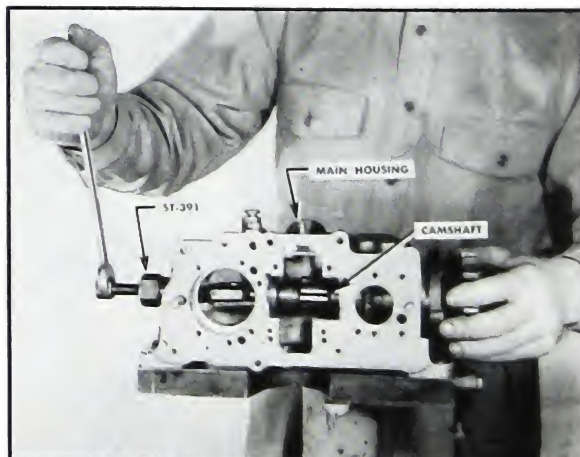

Fig. 5-200. Remove main shaft
4. Assemble the main shaft pressing tool, ST-391, to the housing and press and main shaft the housing. Fig. 5-200.